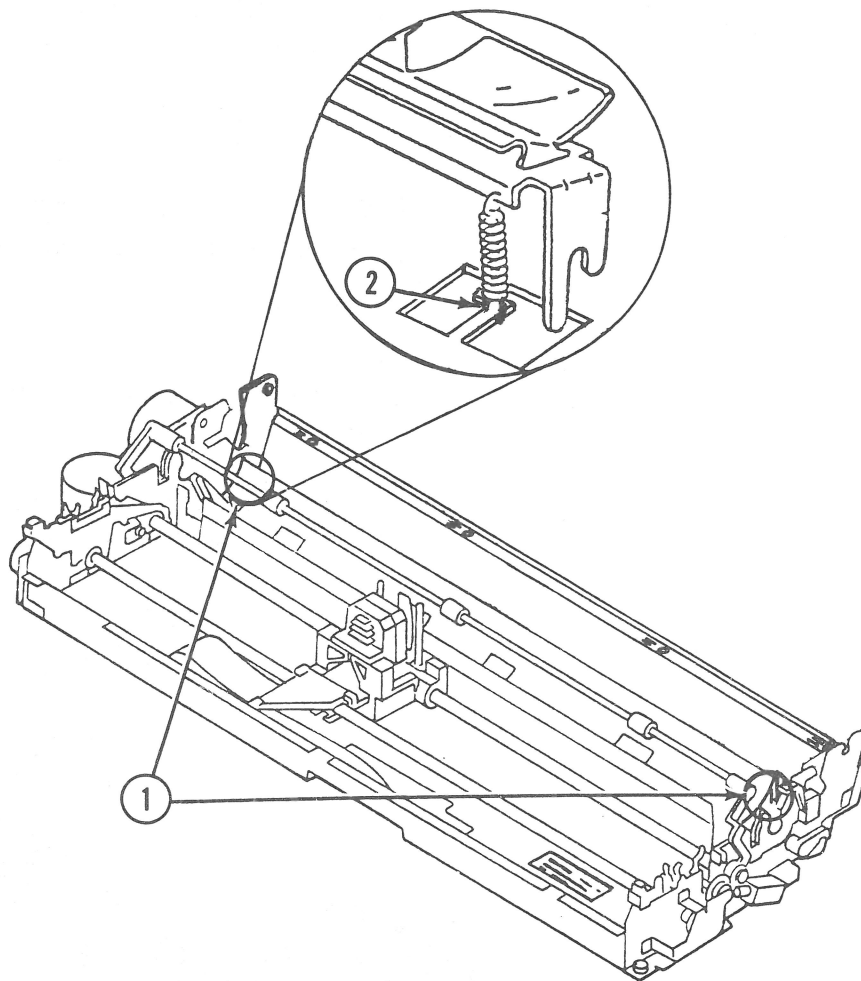

FIGURE 9
1. Locate the two springs on the paper pan subassembly (Figure 9, #1).
2. Using the spring hook, unhook the left and right springs (Figure 9, #2), and lift the paper pan subassembly and the springs from the machine. This subassembly will be completely replaced.